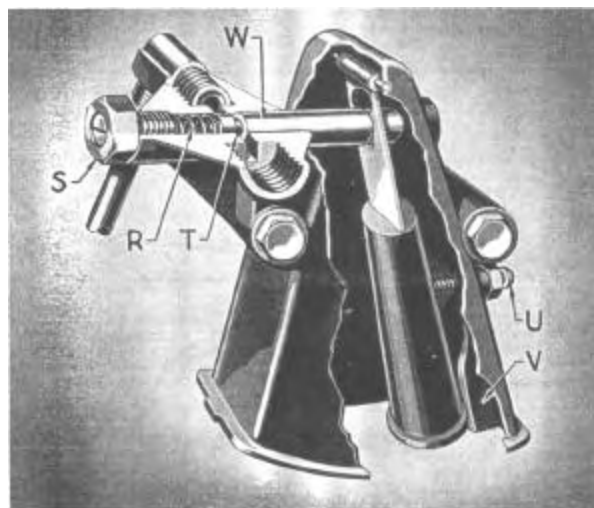

Figure 906
Before attempting any adjustment to the cushion valve, the fitting should be removed from the right side of the valve housing (Figure 906) and the position of the plunger (W) checked. When the pendulum is at its extreme forward position, the reduced section of the plunger (W) should be exactly in line with the port in the housing as shown at T.
The stop (V) (Figure 906) was introduced during 1937 and is so located that the rubber washer on the bottom of the pendulum strikes against it. Where the stop (V) is used, the position of the plunger (W) can be changed by springing the pendulum arm slightly.